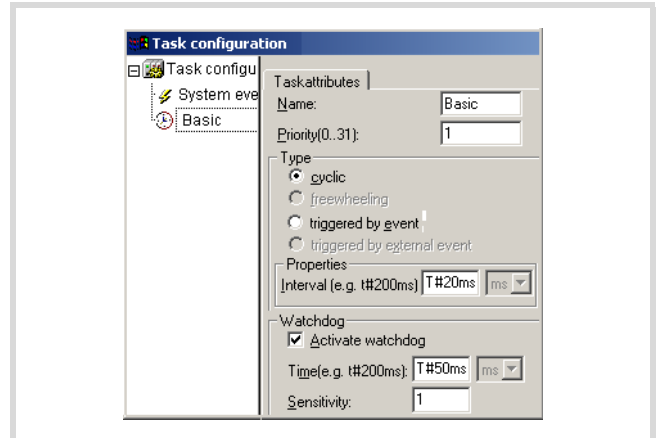

Figure 25: Parameterization of the cyclic task
- Parameterise the task in the dialog window to Figure 25.